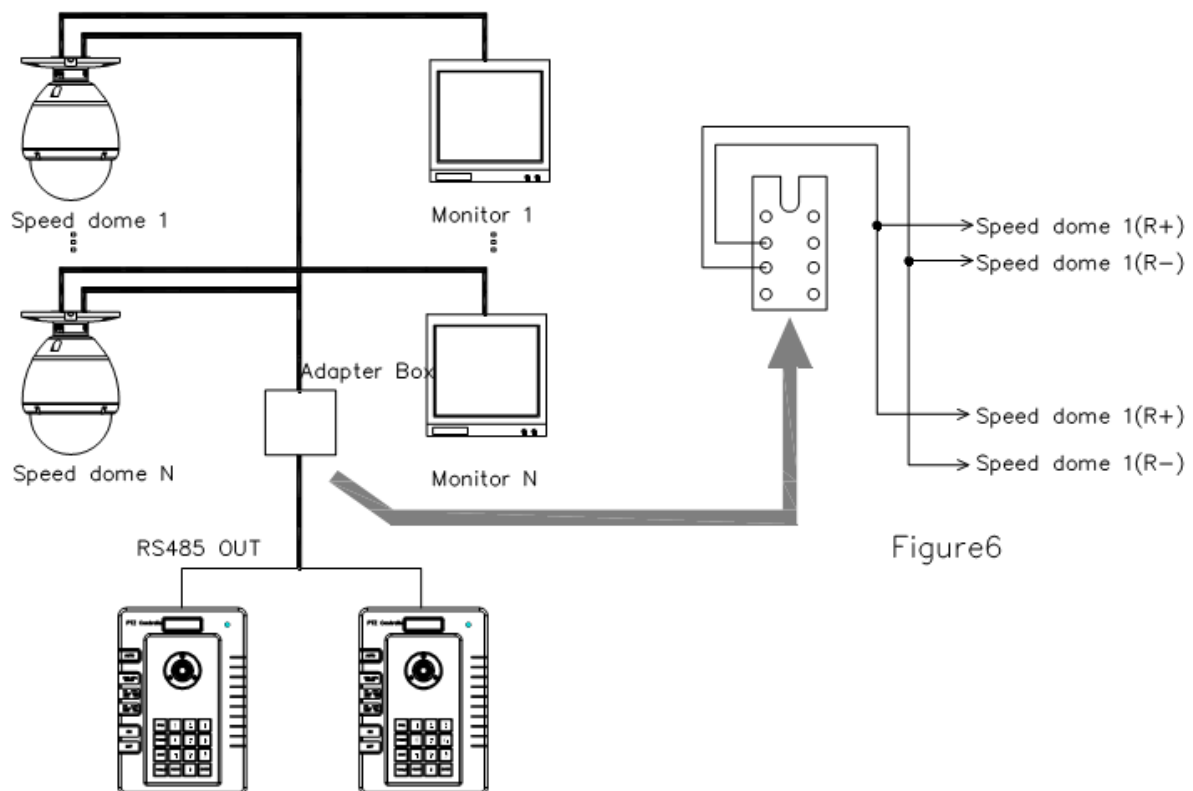

Figure5
2. Connections of the keyboard controller controlling multiple speed dome cameras (Figure 5)